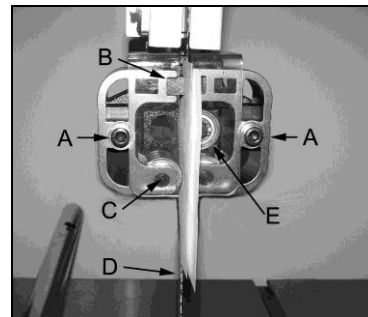

Figure 8
2. To set the blades, fold a piece of paper around the back of the saw blade and slide it up between the blade guides as shown in Figure 8.
3. Loosen allen bolts (A, Figure 8) and position the guide bracket so that guides 'B' and 'C' are just touching the paper and not pushing the blade aside. If your hand is large enough, you could reach around the back of both bracket and squeeze them both together at the same time. Then lock into place with allen bolts 'A'.
1. Blade guides 'B' and 'C' of Figure 8 need to be positioned to just behind the blade gullet as shown by 'D' of Figure 9.
1. The rear blade support bearing (E, Figure 8) should be positioned so that it is just barely touching the back of the blade.